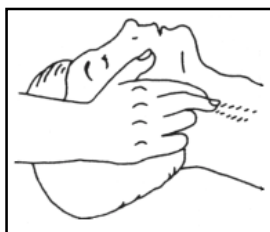
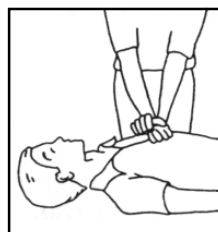
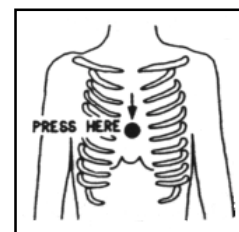

Figure 3-3
Figure 3-4
Figure 3-5
- Check carotid pulse (Fig 3-3); if pulse is absent, begin artificial circulation (Fig. 3-4) depressing sternum (Fig. 3-5)